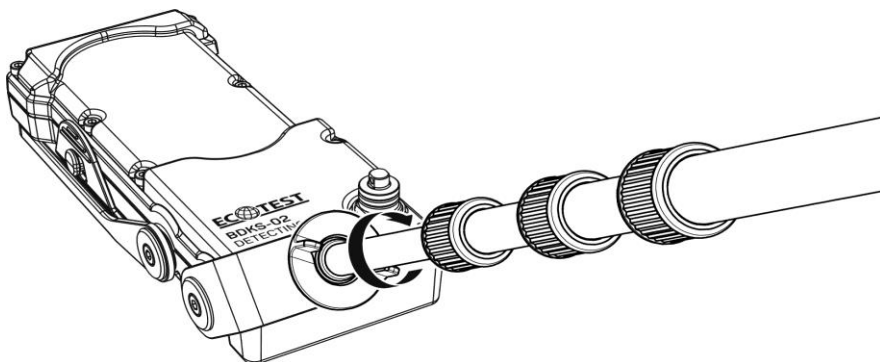

Figure 2.9 – Fixing telescopic tube to ABG probe
2.2.6.3 Screw the telescopic tube on the holder of ABG probe (Figure 2.9)